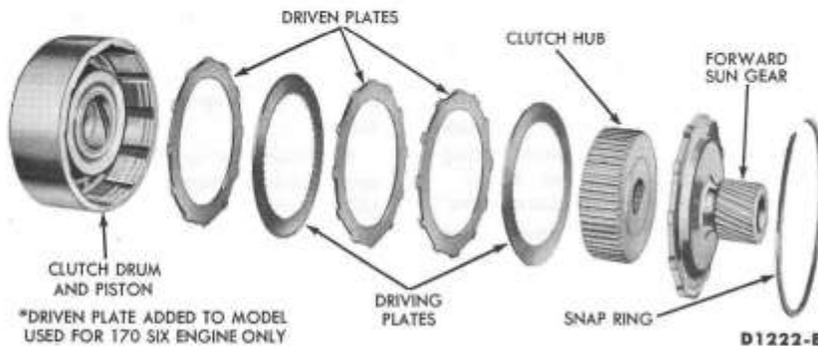

FIG. 10—Clutch Plate Pack Assembly
1. Remove the snap ring that retains the forward sun gear and flange in the clutch drum (Fig. 10). Lift the gear and flange out of the drum.
6. Inspect the drive plates for damage (Fig. 10). These plates should be flat. If there is any visible dish in them, they must be replaced. If the old plates are to be reused, they must not be cleaned in a vapor degreaser or cleaned with any sort of detergent solution. Wipe them clean with lint-free towels.